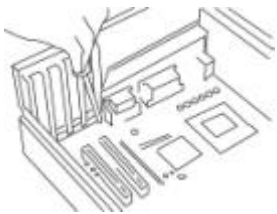

Figure 4
- 2.2) Install I/O shield (from inside of case). Find the correct mounting hole for M/B, screw in standoffs, fasten M/B with the screw. (See Figure 4)